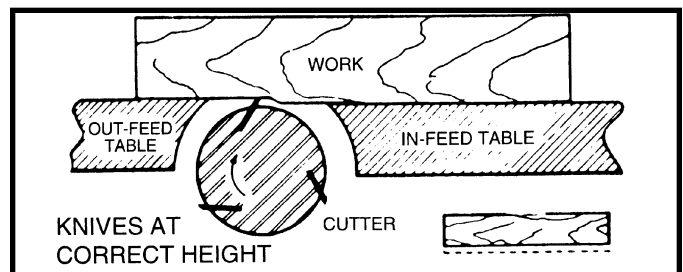

Fig. 29
9. As a final check, run a piece of work slowly over the knives for 6 to 8 inches. The wood should rest firmly on both tables as shown in Fig. 29, with no open spaces under the finished cut.